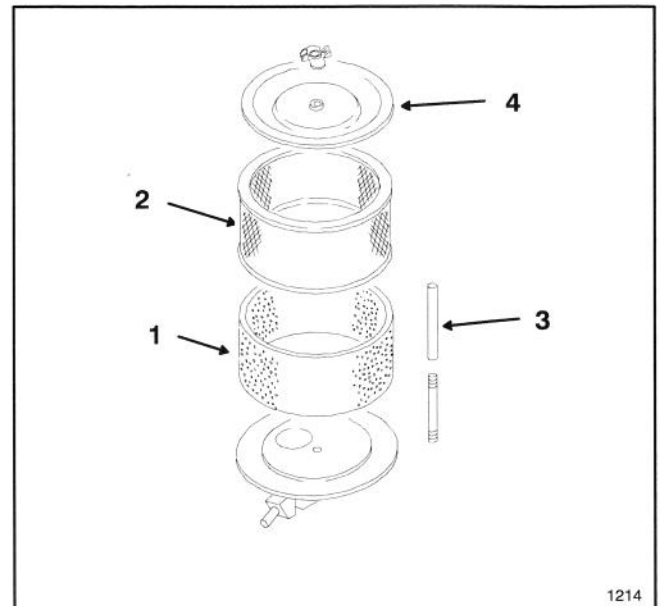

Figure 13
2. Carefully slide foam pre-cleaner off the paper element (Fig. 13).